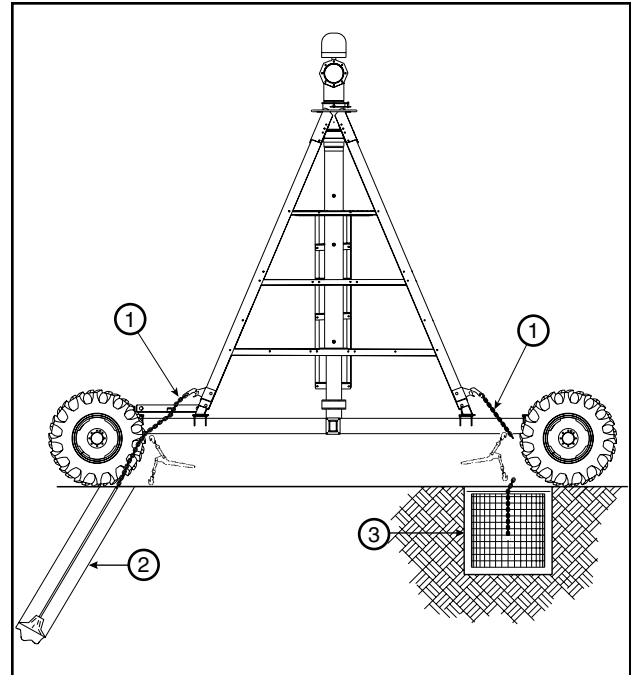

Figure 87-1 1. Chains
1. Attach the anchor chains and secure the cart to the pivot point. See Figure 87-1.